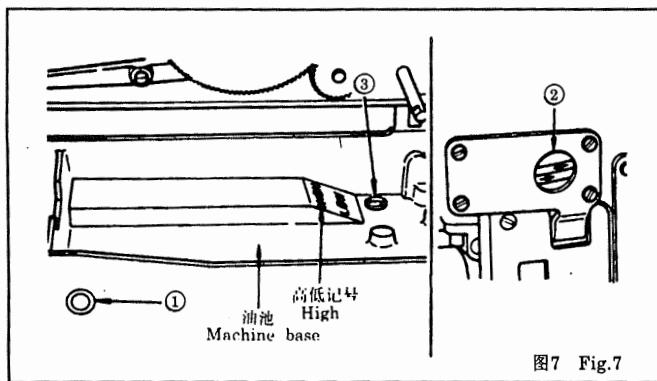
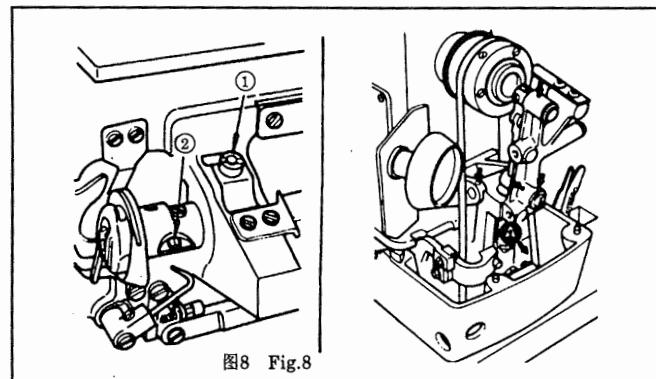

图7 Fig.7
图8 Fig.8
* 机器启动以前 图7
- 2) 当油面降至油标①的下刻线以下时应添加油。
- 3) 在机器处于正常的润滑状态时, 可以通过油窗②内的两根油管, 观察到油的流动。(低速运转时, 油的流动情况可以看得非常清楚)
* 油如被弄脏或有沉淀物后, 应松开螺钉③, 放掉废油, 换上新油。
* 旋梭的油量调节 图8
- 2) 使用新机器或者长期搁置未用的缝纫机时, 在箭头 ④ 所示部位加2—3滴润滑油。
* Before starting the machine: Fig.7
- 2) Supplement the oil when the oil level has lowered below the bottom line of oil gauge ①.
- 3) When the machine has been properly lubricated, the oil is seen to run through the pipe from oil sight window ②. (Low speed operation permits easier observation of the lubricating oil.)
* Adjusting the lubrication for the sewing hook Fig.8